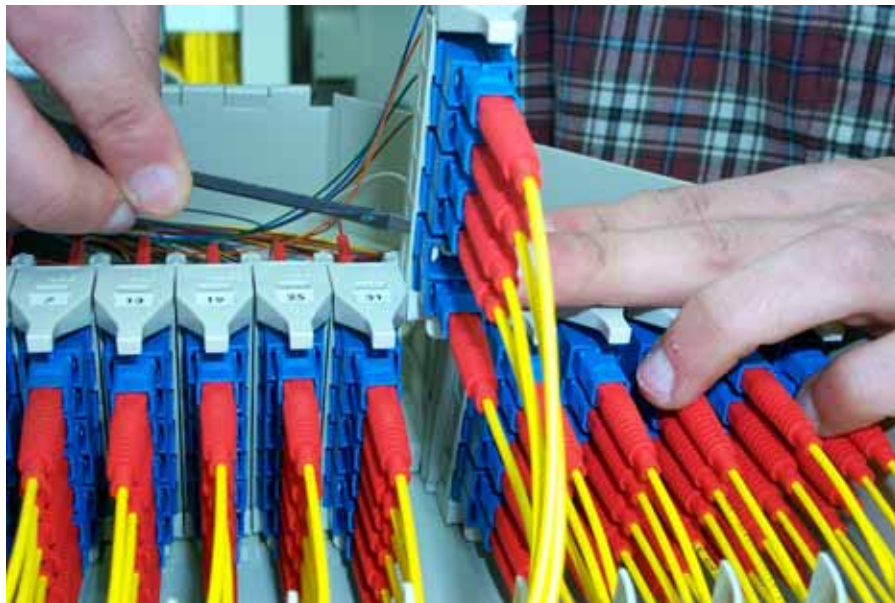

Figure 76. Pressing in Spring Clip on Other Side of Adapter
- Using the small flat screw driver, press in the spring clip on the other side of the adapter as shown in Figure 76. This will free the adapter from the adapter pack.